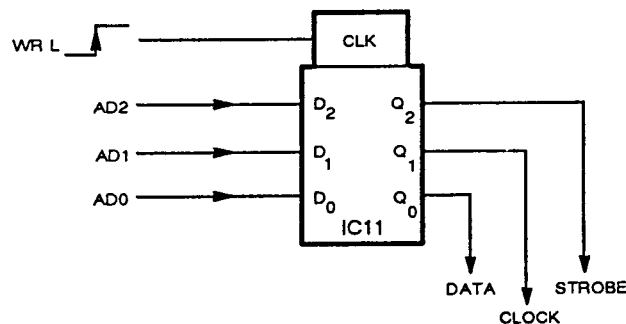

Fig. 4-4 Data transmission (AA2/1)
53. To obtain the required sequence, information is set up one bit at a time on the data line, then the CLOCK line is asserted 'high'. The positive edge of the CLOCK pulse will enable the shift registers on A2/1 board to accept the data. The STROBE line will be taken 'high' to transfer data entered in this manner to the registers when appropriate. Fig. 4-4 shows the basic circuit arrangement for data transmission.